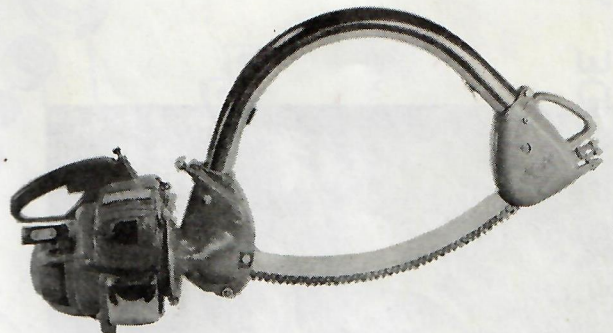

FIG. 13
2. Remove the cover 41818, (Fig. 13).
5. Remove the sprocket 40714 by removing nut 118346, washer 103614, and washers (2) 22564.
9. Remove ring gear by removing screws (4) 101167.
To mount the transmission to the engine, first it is necessary to remove the screw at the bottom of the ring. (See Fig. 13). Place the transmission in operating position against the clutch cover, and allow the indexing clamp ring to snap to a closed position. Test the holding power of the index clamp ring by trying to turn the transmission by hand. If it can be turned the clamp ring will need adjustment. There is an adjustment screw at the bottom of the ring which permits the ring to be tightened. Turn inward to tighten
The Mall bow saw completely eliminates chain pinch by returning the chain in an enclosed tube. It permits more maneuverability and is preferred in many parts of the country for all types of cutting operations. (See Fig. 13).